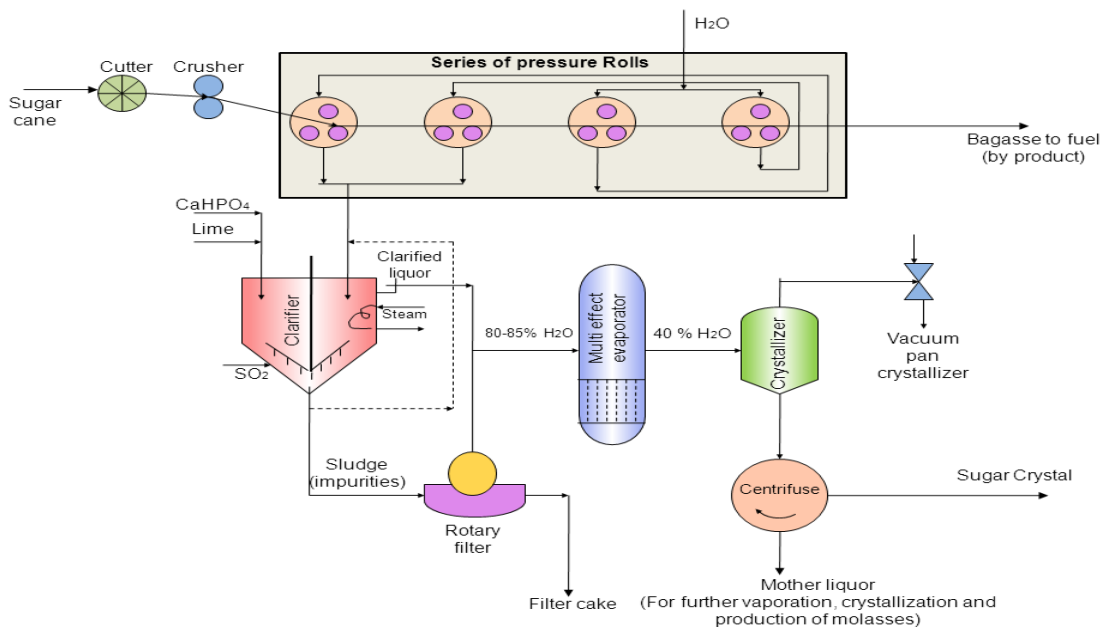

Figure 28.1 Flow sheet of manufacture of sugar from sugarcane
28.2 Functional role of various processes (Figure 28.1)